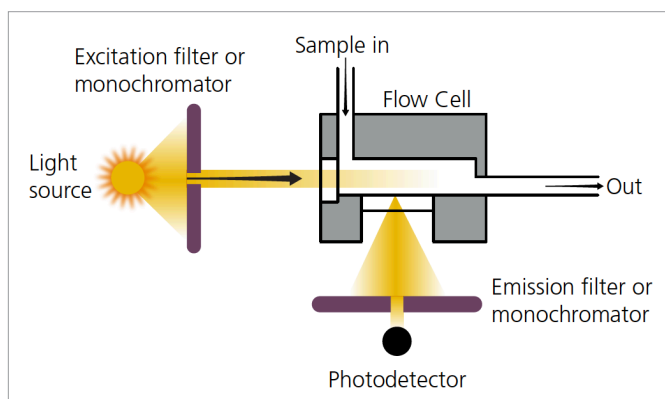

Figure 3. A schematic showing fluorescence detection. Adapted from: chromatographyonline.com.
Fluorescent detectors (FL) measure the optical emission of light by solute molecules after they have been excited at a high energy wavelength. Their specific excitation and emission wavelength profile aids in the characterization of individual components. FL detectors are incredibly specific, sensitive and selective detectors, offering greater sensitivity than UV/Vis detectors. In contrast to UV/Vis detectors which measures light that has been absorbed by the sample, FL detectors detect fluorescence emitted in an orthogonal direction to the exciting light. As illustrated in Figure 3, they are similar to single or fixed wavelength detectors, however two monochromators (or filters) are used (one to select excitation wavelength and the other to select emission wavelength).^{5,15}